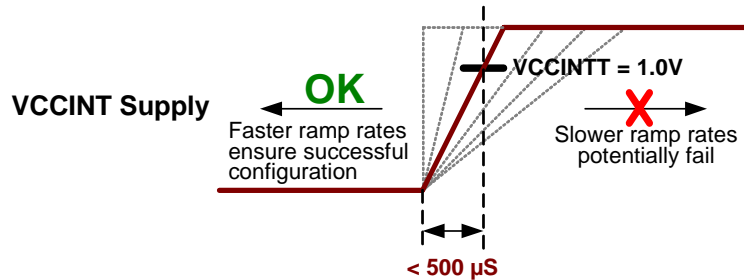

Figure 4: Use Faster VCCINT Ramp Rate if VCCINT is Last Supply
**OPTION 3:** In a system that requires that the VCCINT supply is last in the power-up sequence, ensure that it ramps to its maximum POR threshold voltage ( $V_{CCINTT} = 1.0V$ ) in less than  $< 500 \mu S$ , as shown in Figure 4.